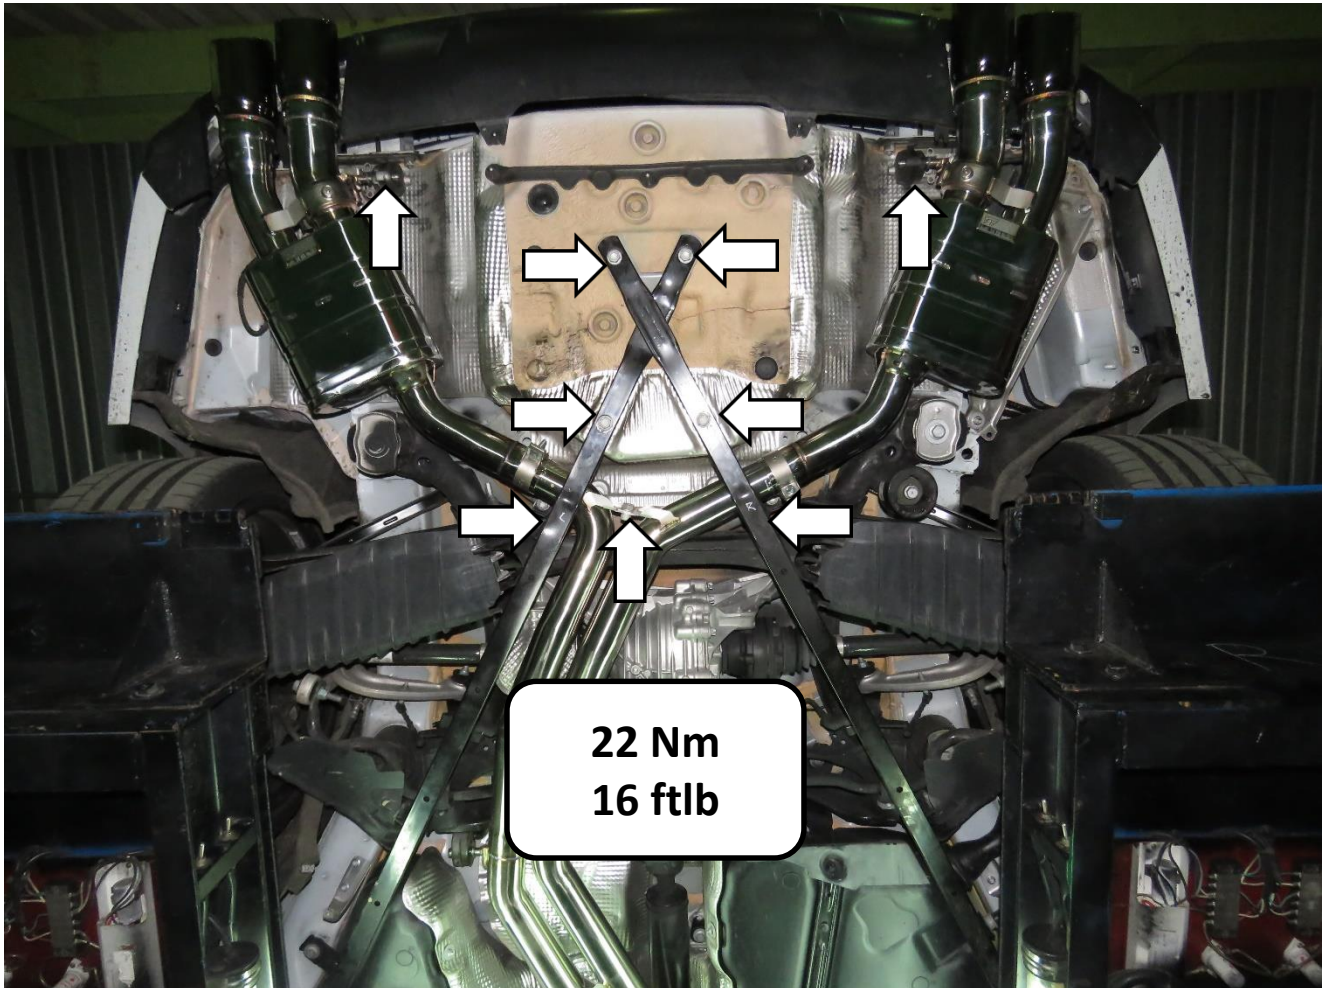

Figure 9
- 4) Place muffler and motor to position, tighten the mid-length set screws (Figure 9).